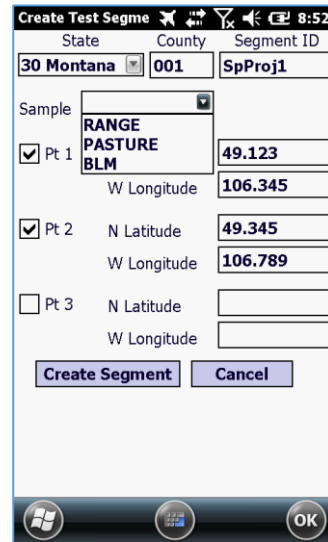

Figure 3. Special use segment/point IDs are displayed in the available test segment window.
3. The Create Test Segment window will now open. Enter the appropriate **State** (from the pull down list), **County** and **Segment ID**. County can be any number but must be 3 digits. Segment ID must be 7 characters but can be made up of numbers and letters. Select the type of survey from the Sample drop-down list. Certain protocols are only available for certain types of surveys (Range, Pasture, or BLM). Check the boxes next point IDs and enter the coordinates (fig.3).